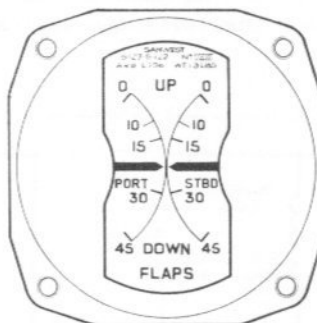

Fig.1 Indicator, Type S127.5.122
1. The indicator, Type S127.5.122 (fig.1) is calibrated from 0-45 on each of the two scales. The figures are related to FLAP position. The figures and scale marks are finished white on a matt-black background; the pointers are also finished white.